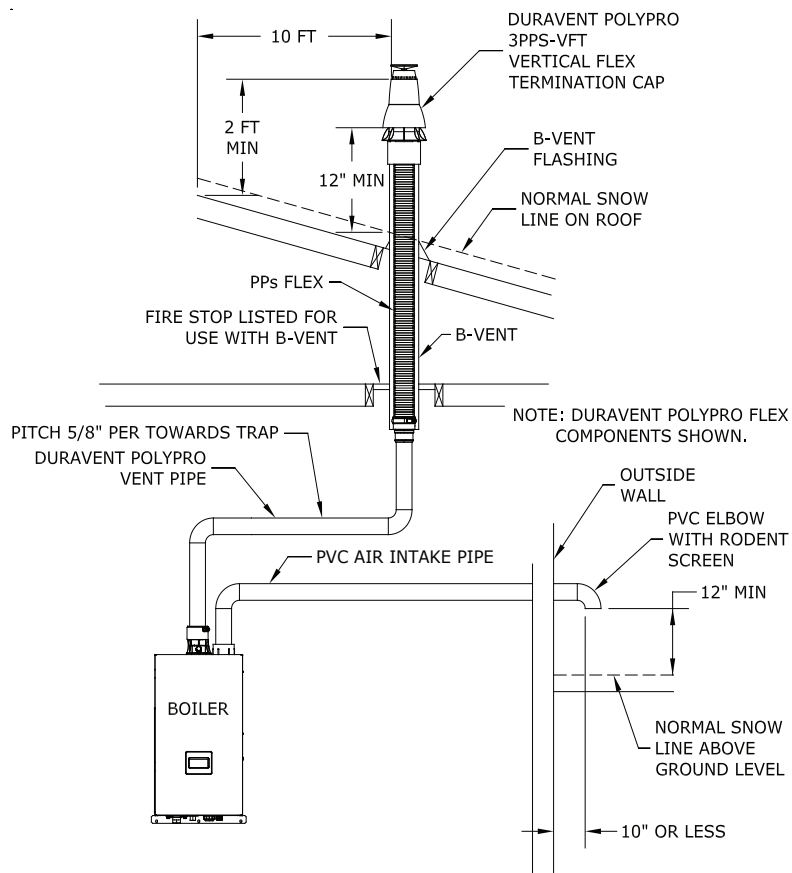

Figure 7.23: Split Vent System (Flex in B-Vent Chase) Vent Options 15-17)
4. Use of abandoned chimneys as a Vent Chase for flexible Polypropylene Venting (Options 15-17) – Vent options 15-17 permit flexible Polypropylene venting to be routed to the roof using an abandoned masonry or B-vent chimney. In these applications combustion air is drawn horizontally from a wall terminal. See Figure 7.23 or 7.24a. When using one of these vent options, observe the following requirements: